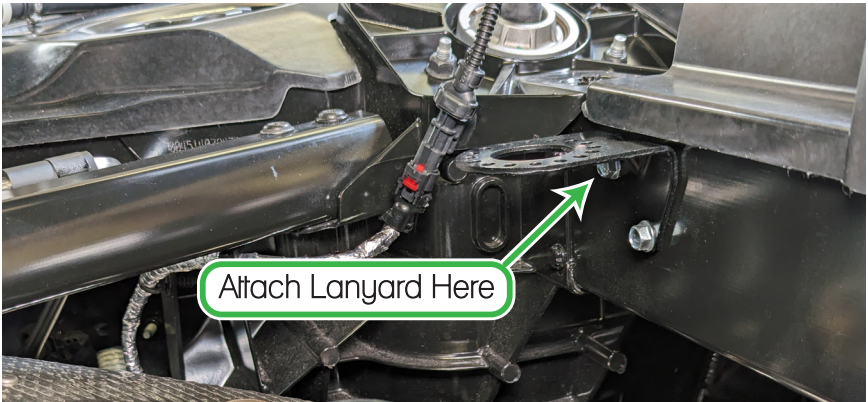

Figure 4 - Bracket Installed
2. Install the bracket and lanyard with the provided M6 screws, using a 10mm tool as shown in Figure 4.